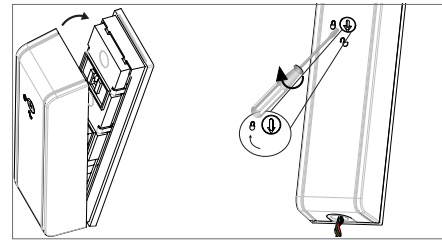

Figure 8.1: Closing the cover
2. Insert a slotted screwdriver into the rotary lock on the front of the sensor and turn clockwise to the close position (locked). Refer to Figure 8.1.